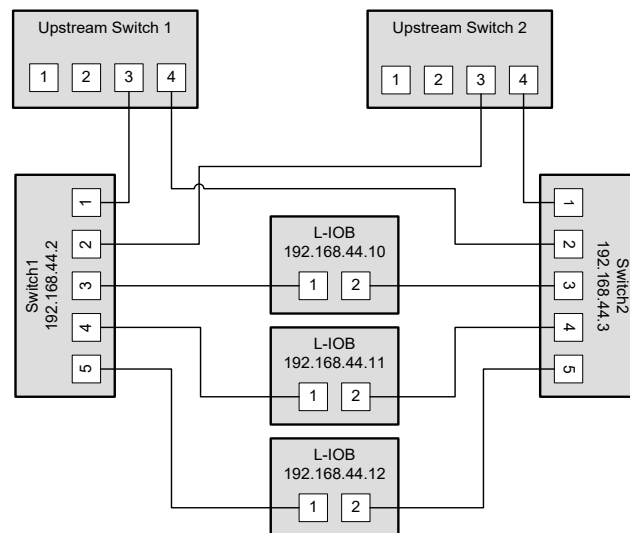

Figure 118: Fully redundant Ethernet topology
**Fully redundant topology:** Both Ethernet ports are connected to a different upstream switch. Thus, a single cable or upstream switch problem can be tolerated. This topology requires RSTP. In Figure 118, the L-IOB devices with IP addresses 192.168.44.10 to 192.168.44.12 are connected in this way. This connection scheme increases switch and cabling costs, but increases network resilience. Note that the upstream network is connected via the lowest-numbered ports. If this is not possible, the ports need to be configured to the lowest STP port priority value (which is the highest priority).
selected as the root bridge. If possible device communication should be bound to a separate VLAN and MSTP (Multiple Spanning Tree Protocol) should be employed to isolate the spanning tree operations. This topology is shown in Figure 118.
The following example shows the configuration commands for Switch1, Switch2 and the upstream switch (HP Procurve syntax) in the setup shown in Figure 118.